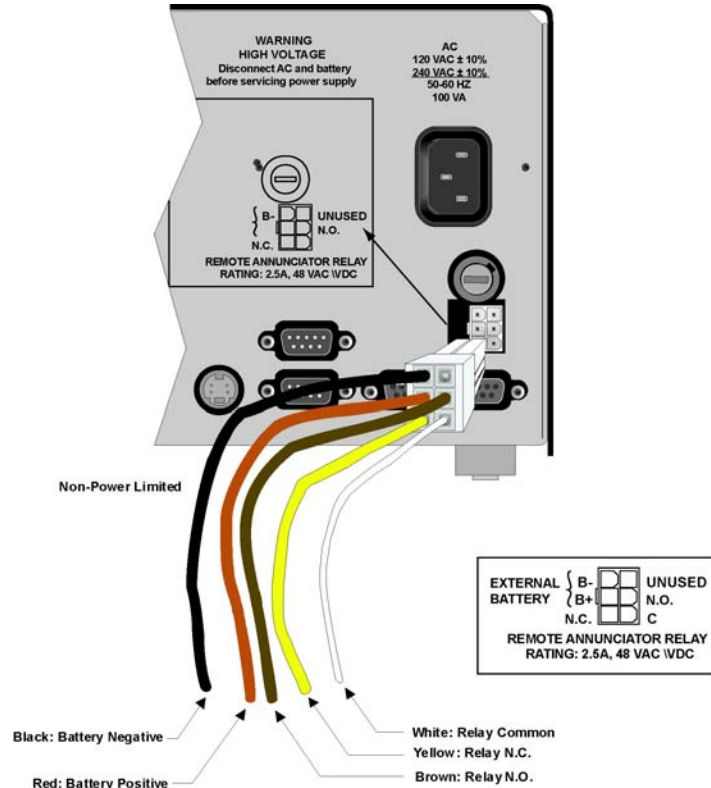

Figure 3-8 9500 Remote Alert Output/External Backup Battery Connection
1. Plug the Relay wiring harness onto the connector on the back of the 9500. (See Figure 3-8.)